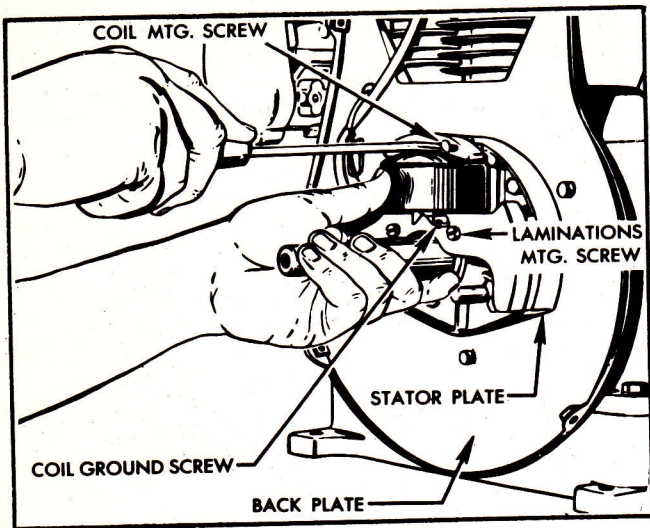

Figure No. 12
5. The magneto laminations and coil are now exposed. (See Figure No. 12.) Check all three leads to be sure that they are in place and not leaking. The ground lead, which goes from the coil to the laminations, the primary lead to the breaker points terminal, and the secondary or hi-tension lead which goes to the spark plug.
9. The coil itself is easily removed by removing the round head screws (not the hexagon head screws) which hold the coil to the laminations. (See Figure No. 12.)